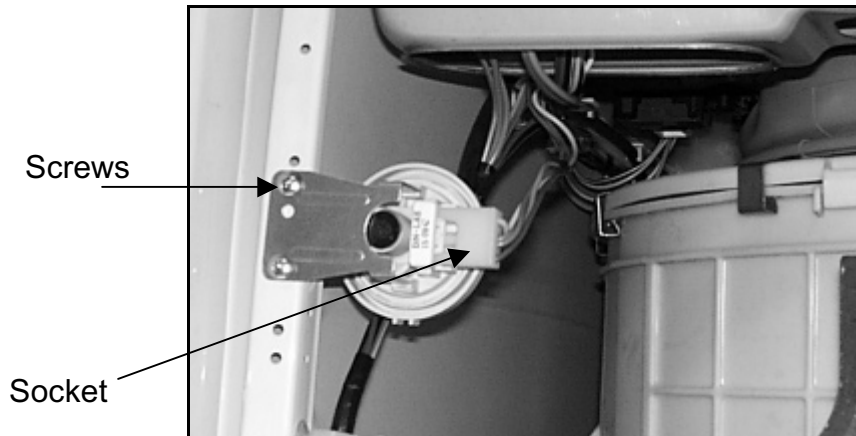

Figure-12
- The socket of pressure switch is removed by pressing the socket snap (Figure-12).
- Two screws that attach the pressure switch to the body are unscrewed (Figure-12).